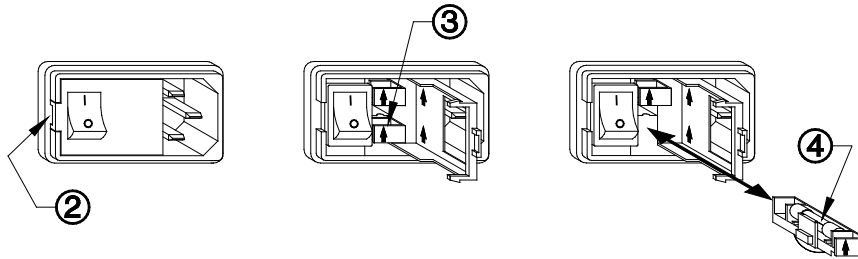

Figure 15-2 Readout Fuse Replacement
2. Insert the tip of a small flat bladed screwdriver into the notch of the power entry module just to the left of the switch. Twist the screwdriver to open the fuse cover door. (Refer to Figure 15-2 Readout Fuse Replacement).